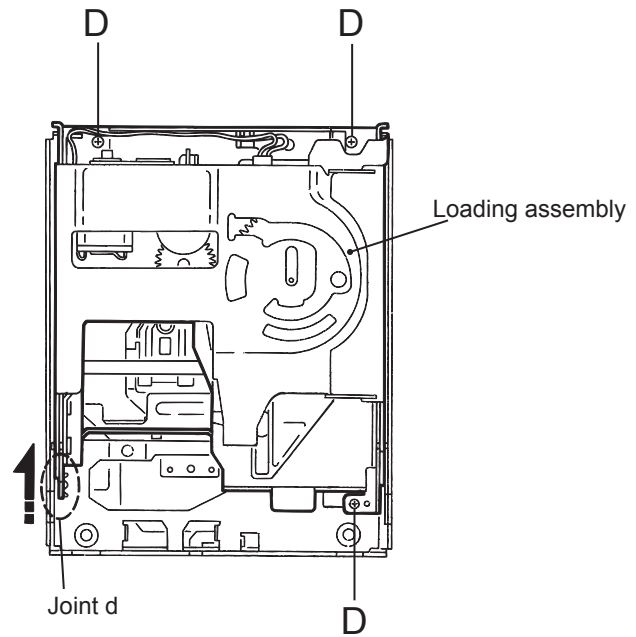

Fig.8
2.4.5 Removing the Loading assembly (See Fig.8 and 9)